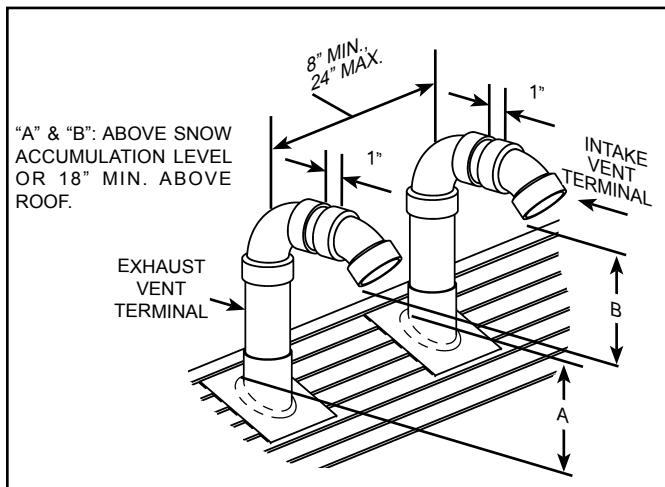

Figure 22
Important: When terminating the vents through a roof, the following specifications pertaining to terminal location must be followed (see Figure 22).
- Refer to Table 3 for vent pipe materials and sizing. If the installation requires a vent riser, suitable drainage must be provided to ensure condensation does not accumulate (see Figure 35). Termination through a roof is shown Figure 22.